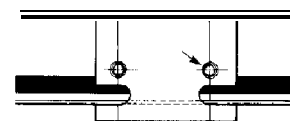

Fig. 7d
10.10.4 Locate the mid guide jig (W616) onto vent and line up the drill bush centre line with the extended centre line Fig. 7d.